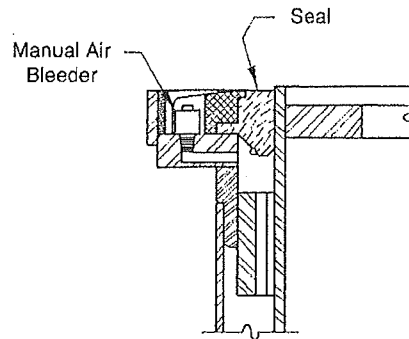

Fig. 19
A. Open bleeders in jacks (2) full turns, Fig. 19.
- A. Open bleeders in jacks (2) full turns, Fig. 19.